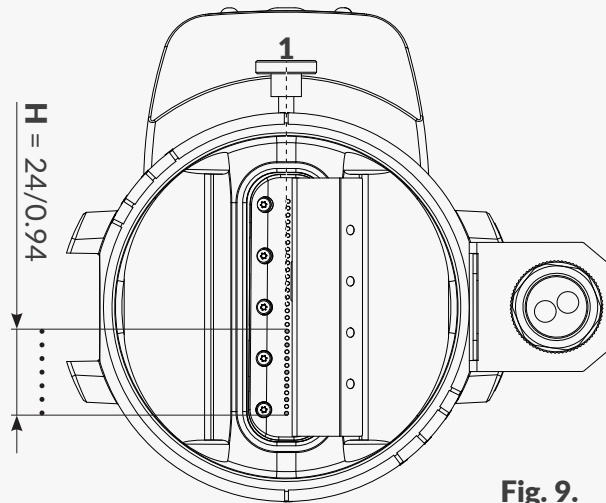
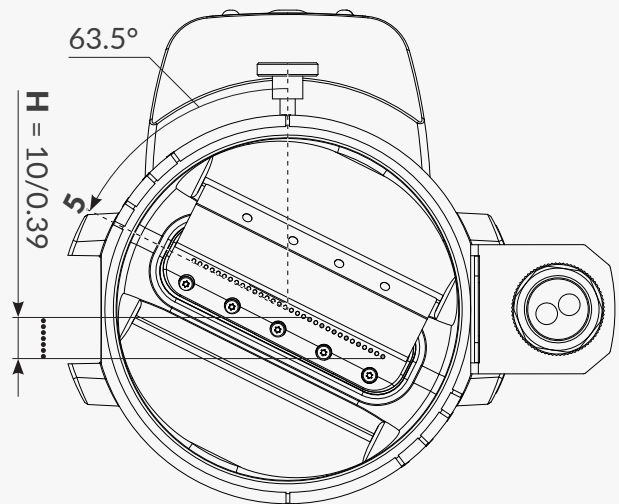

Fig. 9.
Fig. 13.
* The rule for reducing maximum print heights **H** by turning the printhead is presented in Fig. 9 through Fig. 13 where the 7N/24 printhead is used as an example. With the reduction of print heights, the distance between nozzles/dots decreases and thereby print resolution in the vertical direction increases.